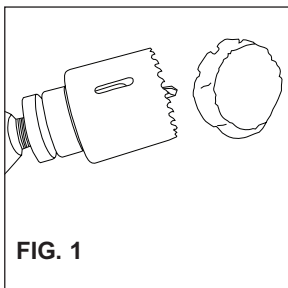

FIG. 1
- i.) Using a 2" hole saw, make an opening on each side of the wall ensuring that the holes are aligned (See Fig. 1).